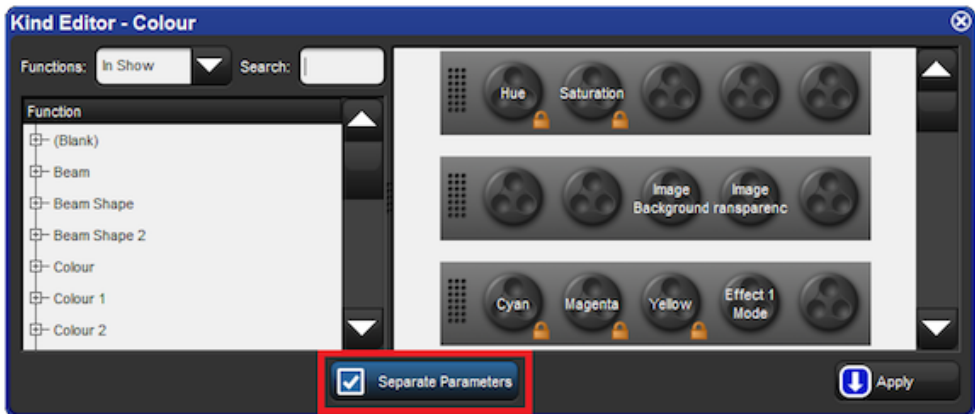

Figure 6.12. A Kind Editor for the Colour kind with seperate parameters turned on.
2. Toggle separating parameters on and off by pressing the parameter type buttons; see Figure 6.12, “A Kind Editor for the Colour kind with seperate parameters turned on.”.